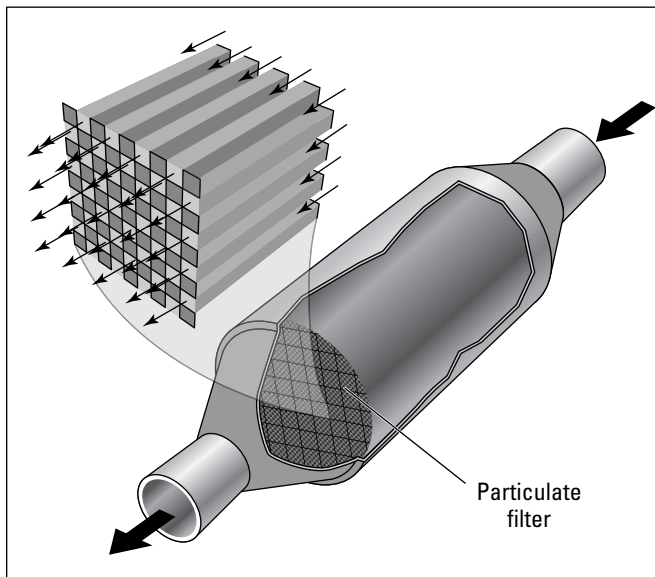

Figure 9-10: A diesel particulate filter.
- ✓ A diesel *particulate filter* (see Figure 9-10) that scrubs sooty particles from the exhaust, trapping them in the filter material and regularly hitting the filter with a burst of superheated gasses to burn up the particles